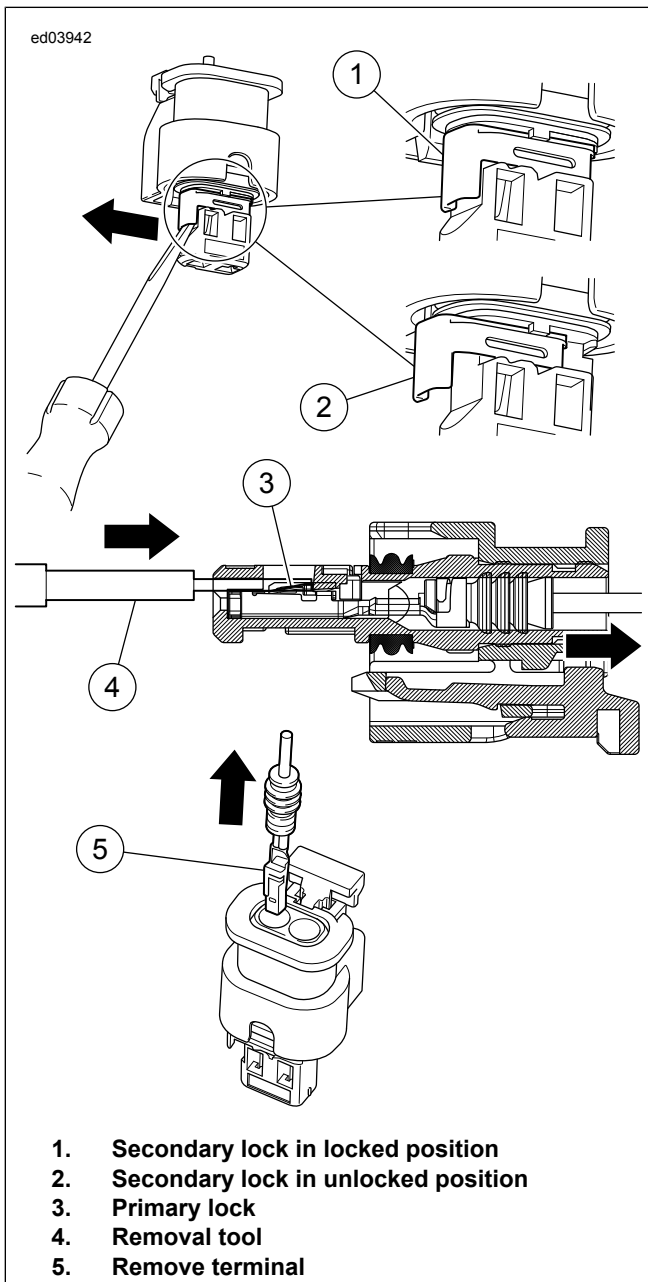

Figure B-49. Removing Terminal
1. See **Figure B-49**. Using a screwdriver, release the secondary lock.